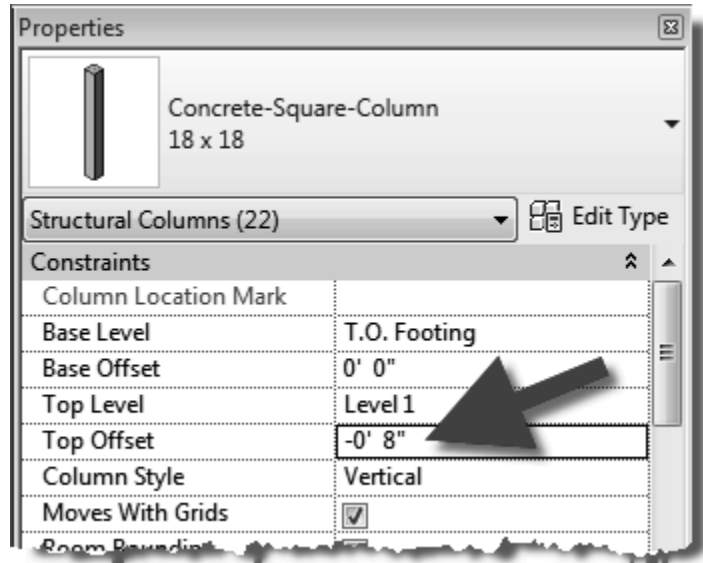

FIGURE 7-5.6
27. Set the *Top Offset* to **-8"**; be sure to add the minus symbol (see Figure 7-5.6).